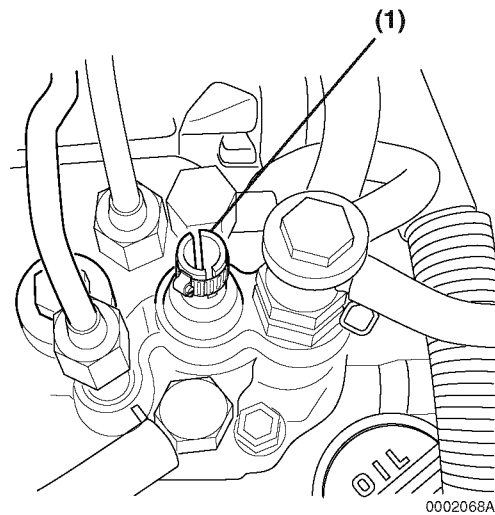
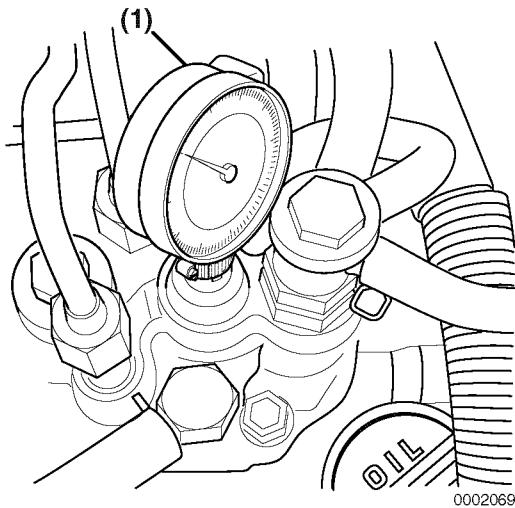

Figure 7-42
Figure 7-43
Note: Use the Yanmar part no. 158090-51831 M14 adapter for the MP2 fuel injection pumps (TNV82 - 88 model engines) or Yanmar part no. 158090-51841 for the M16 adapter used on the MP4 fuel injection pumps (TNV94 - 106 model engines) and Yanmar part no. 23000-013000 plunger adapter clamp (**Figure 7-42, (1)**).
5. Install a dial indicator (**Figure 7-43, (1)**), Mitutoyo No. 2050SB or equivalent, with a 30 mm extension, Yanmar part no. 158090-51870 or Mitutoyo No. 303613, into the adapter. Secure with the Yanmar part no. 23000-013000 plunger adapter clamp (**Figure 7-42, (1)**) at approximately the mid-point of its travel.